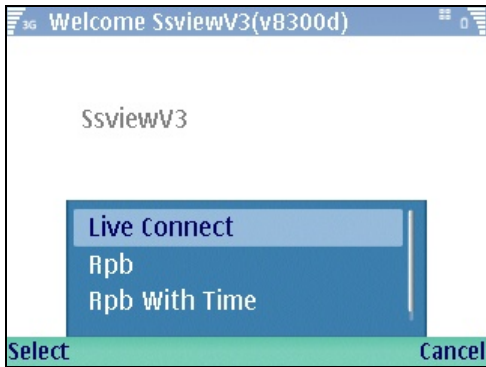

Figure 8-70
3. Click **Options**, and then select **RPB** (see Figure 8-70). If you want to search the recordings within a specific period of time for playback, select **RPB With Time**.